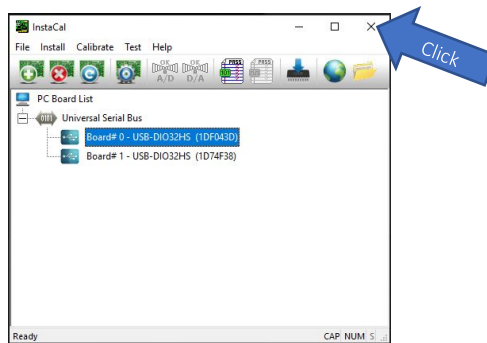

Fig 4-5
- I. Click OK - *Figure 4-5 should appear*